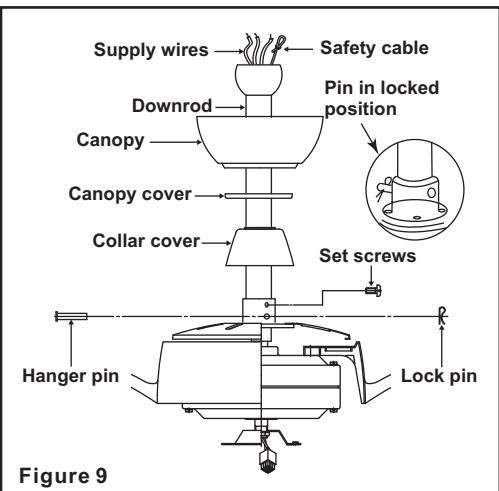

Figure 9
Step 5. Remove the hanger pin, lock pin and set screws from the top of the motor assembly. (Fig. 9)
Step 6. Route the safety cable and wires exiting from the top of the fan motor through the collar cover, canopy cover, canopy and then through the ball / downrod. (Fig. 9)
the motor housing (Fig. 9). Carefully insert the hanger pin through the holes in the collar and downrod. Be careful not to jam the pin against the wiring inside the downrod. Insert the locking pin through the hole near the end of the hanger pin until it snaps into its locked position, as noted in the circle inset of Fig. 9.
Step 8. Tighten two set screws on top of the fan motor firmly. (Fig. 9)